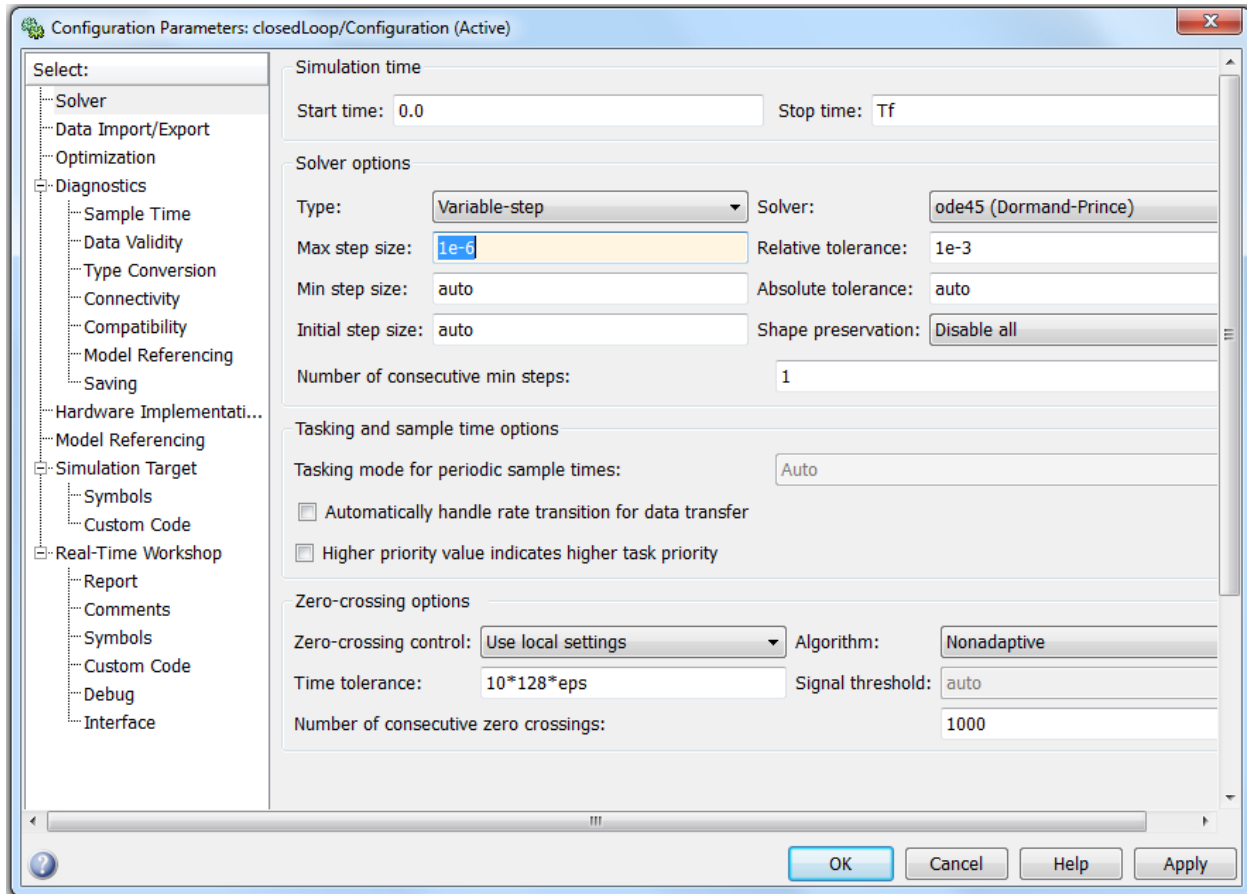

Figure 7: Simulation Configuration Parameters
- Since we are dealing with small time scales, we will need to modify the maximum default time step in Simulink. To do this click Simulation → Configuration Parameters. Under the **Solver** change the **Max step size** from auto to to **1e-6**. The next two figures show the basic idea. Save the model file when you are done (see Figure 7).